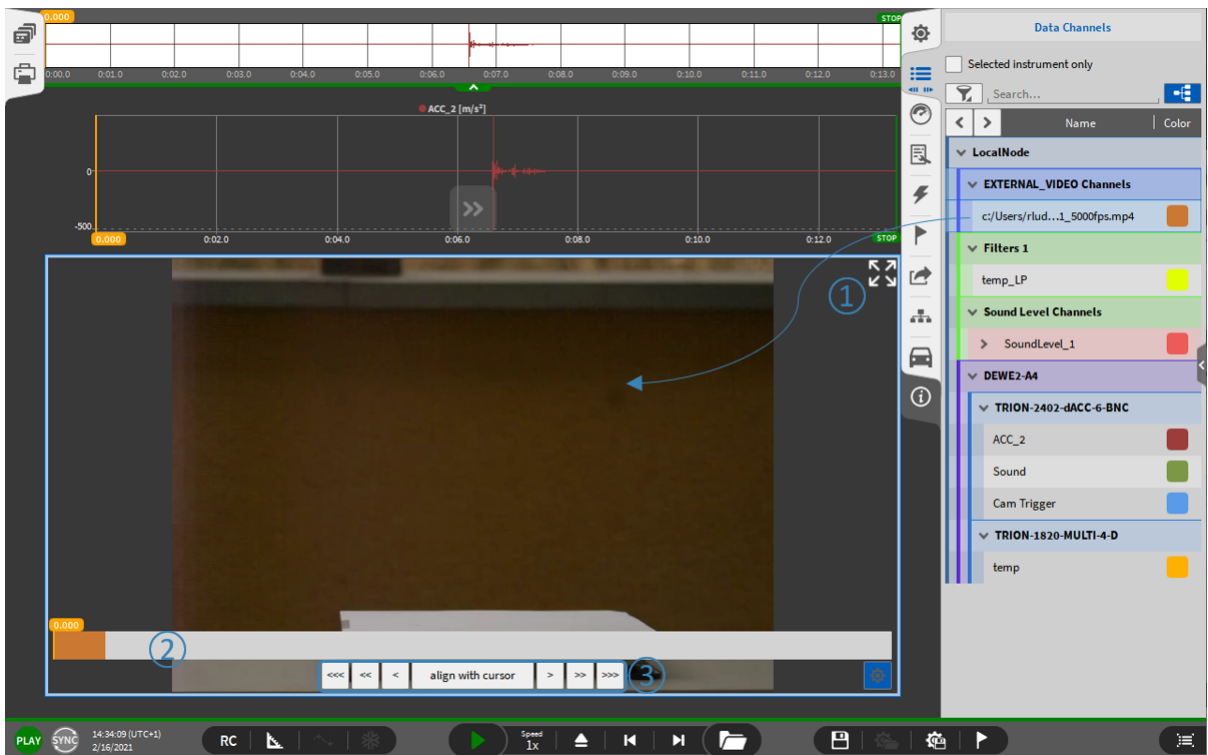

Fig. 7.168: Manual delay compensation between video and sensor data
1. Go to the measurement screen and drop the external video channel to the measurement screen (see ① in Fig. 7.168). This will create a video instrument including the video.
The timebar shows the actual position of the video within the OXYGEN data file (see ② in Fig. 7.168)
2. The buttons (see ③ in Fig. 7.168) can be used to change the position of the video within the data file